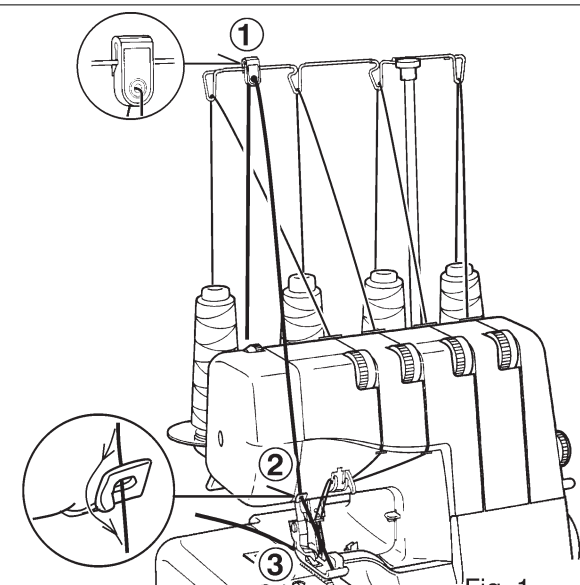

Fig. 1
1. Snap the detachable cord guide, in your accessory set onto the thread guide pole (Fig. 1).
2. Place a filler cord, such as a crochet cotton, gimp, wool, knitting yarn, or shirring elastic at the rear of the machine spool pin. Pass the cord through the cord guides (1) and (2) and then through the left needle thread guide (3). See Fig. 1.